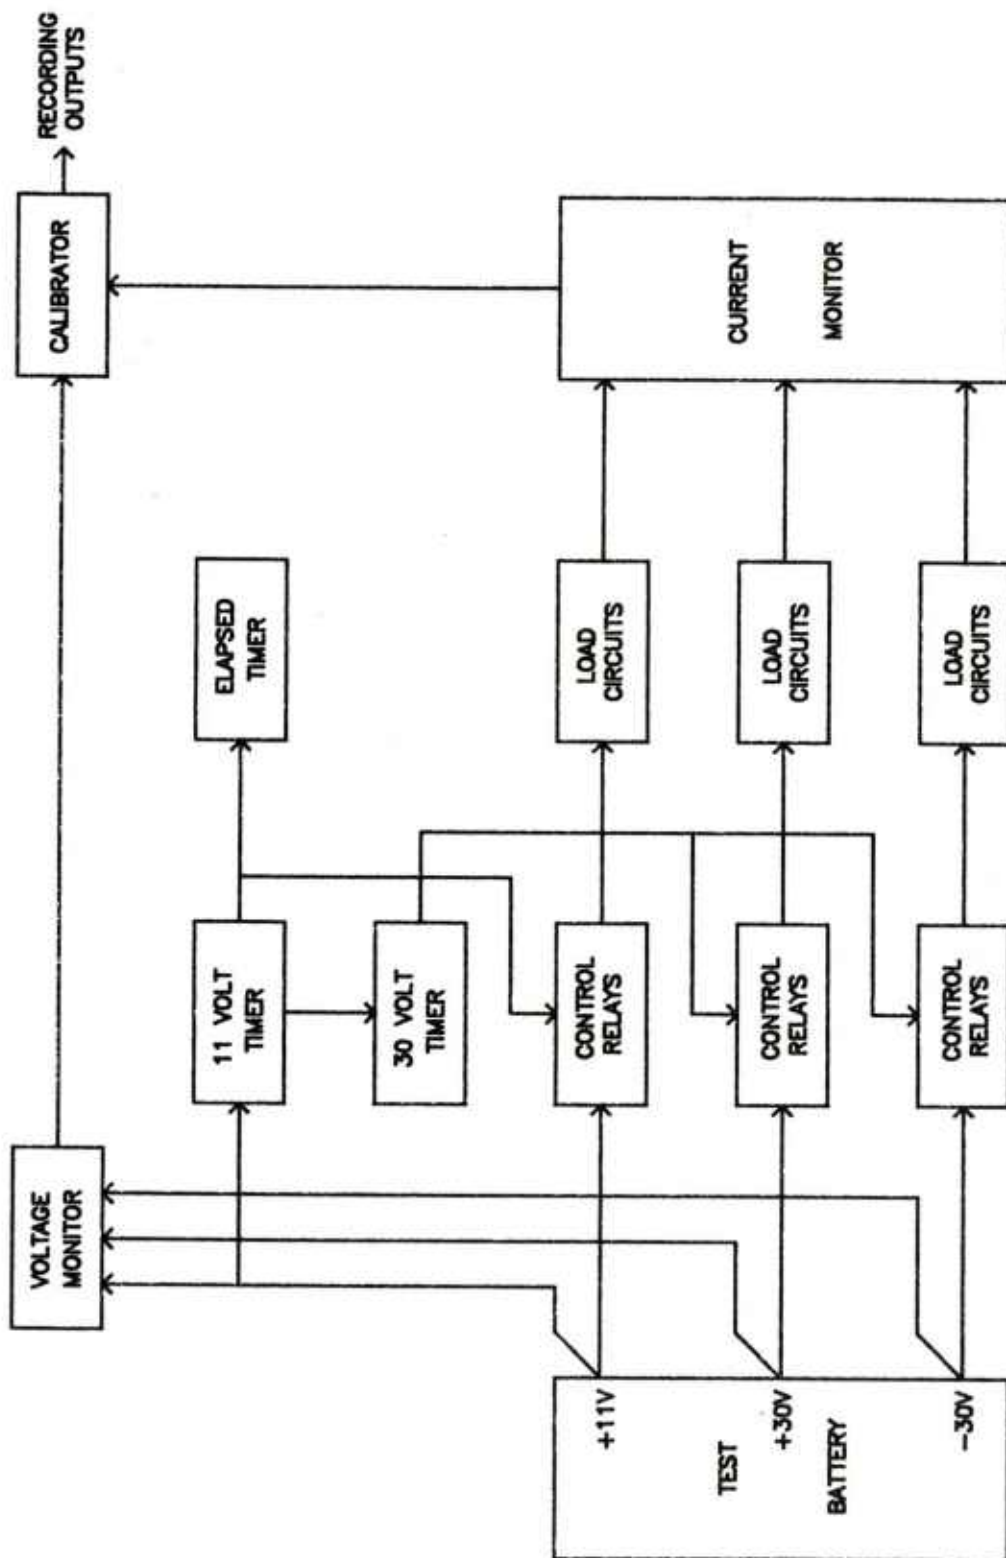

Figure 1. Battery Tester Block Diagram
The COPPERHEAD Battery Tester is a self-contained instrument that is used with a Shock Test System to perform complete tests on the COPPERHEAD battery. It contains all of the timing circuits, constant current load circuits, calibration circuits, monitoring circuits, and fixed resistive loads for performing the tests. Ten output jacks are provided for recording voltage, current, and noise data. A high input impedance (greater than 20K ohms) recorder should be used. Automatic calibration is provided on each output prior to the test. Automatic actuation of the Shock Test System is also provided. In addition, an elapsed timer is provided as a convenience for visually monitoring the time of all functions. These automatic features permit the rapid testing of a series of batteries after the initial setup has been performed. An overall block diagram of the Battery Tester with a test battery is shown in Figure 1. This equipment is designed to provide the test requirements as stated in MIL-P-63235 (AR).